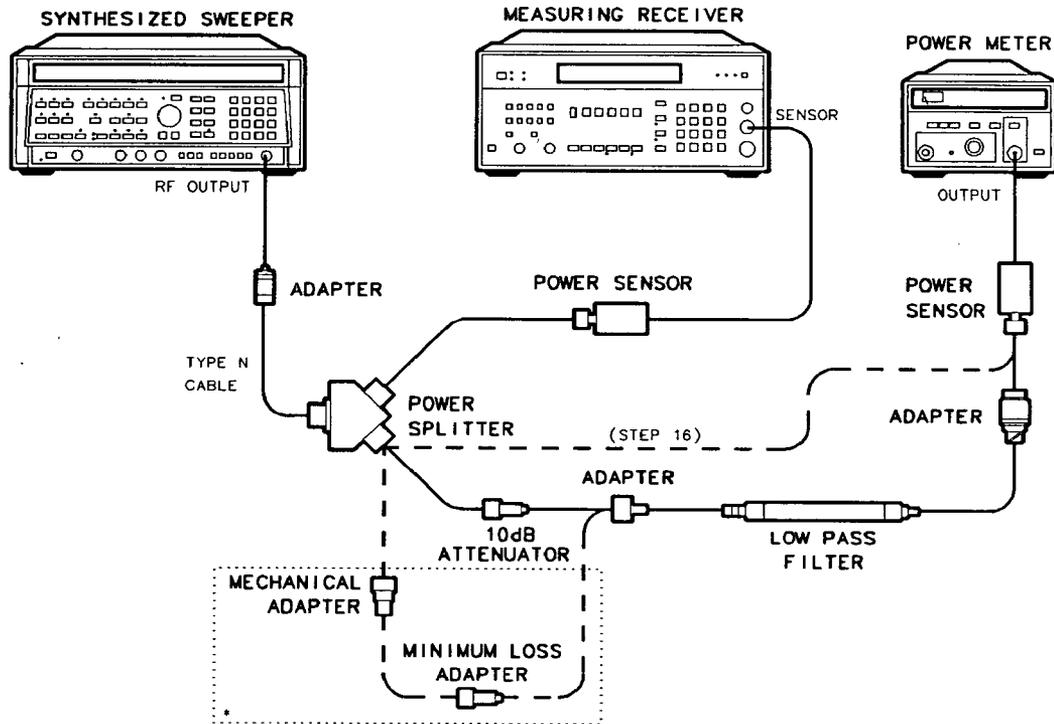

Figure 2-24. LPF Characterization
16. Connect the equipment as shown in Figure 2-24. Connect the HP 8484A directly to the Power Splitter (bypass the LPF, Attenuator and Adapters).
20. Connect the LPF, Attenuator and adapters as shown in Figure 2-24.